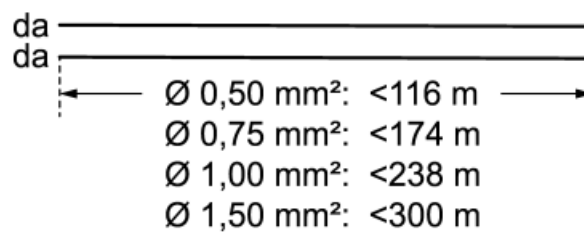

Figure 4: DALI cable length
- DALI cable length (see Figure 4)